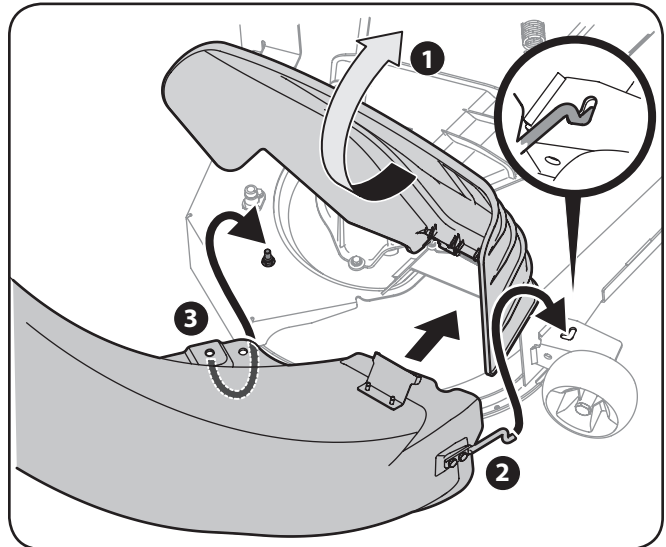

Figure 5-19
- Raise the chute deflector (1 in Figure 5-19) on the deck and hold it while you position the discharge chute over the chute opening.
- Insert the end of the discharge chute elbow (2) into the hole provided in the deck wheel mount as shown in the inset of Figure 5-19.
- Pivot the discharge chute rearward until the hole in the discharge chute elbow aligns with the pin on the deck. Move the discharge elbow down onto that pin as shown in 3 of Figure 5-19.